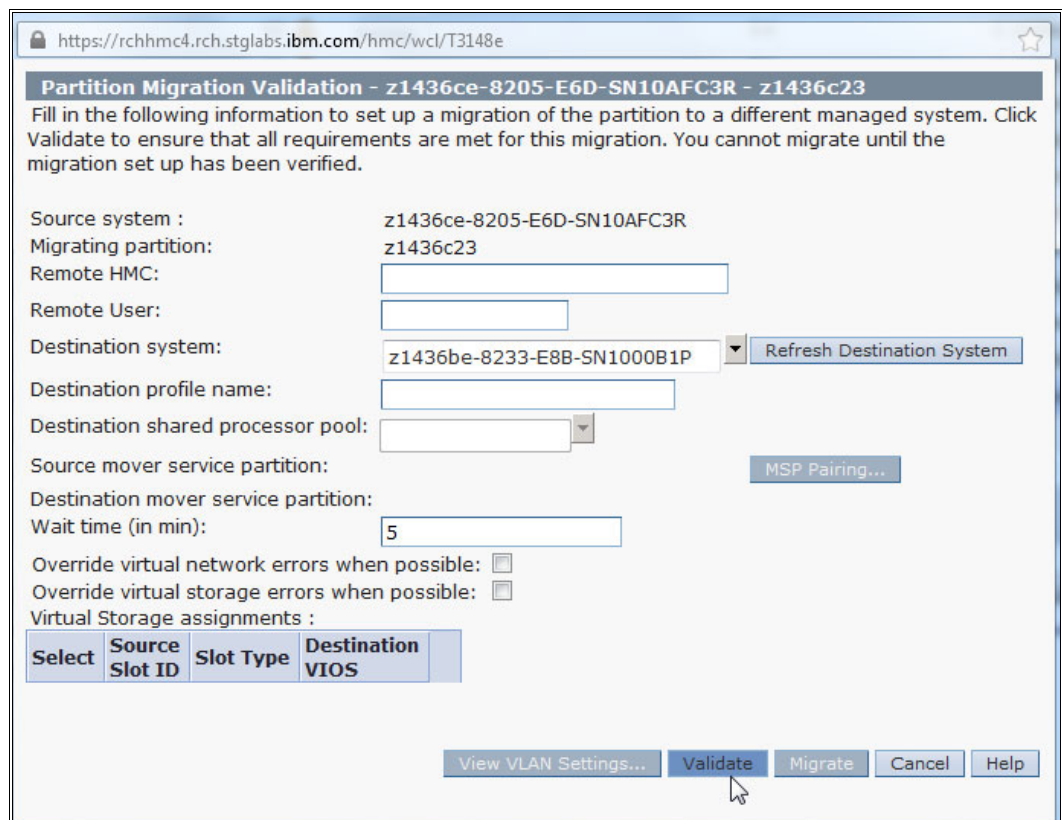

Figure 5-14 Live Partition Mobility, selecting the destination system
2. Select the destination system to which you want to move the LPAR, as shown in Figure 5-14. Click **Validate**.